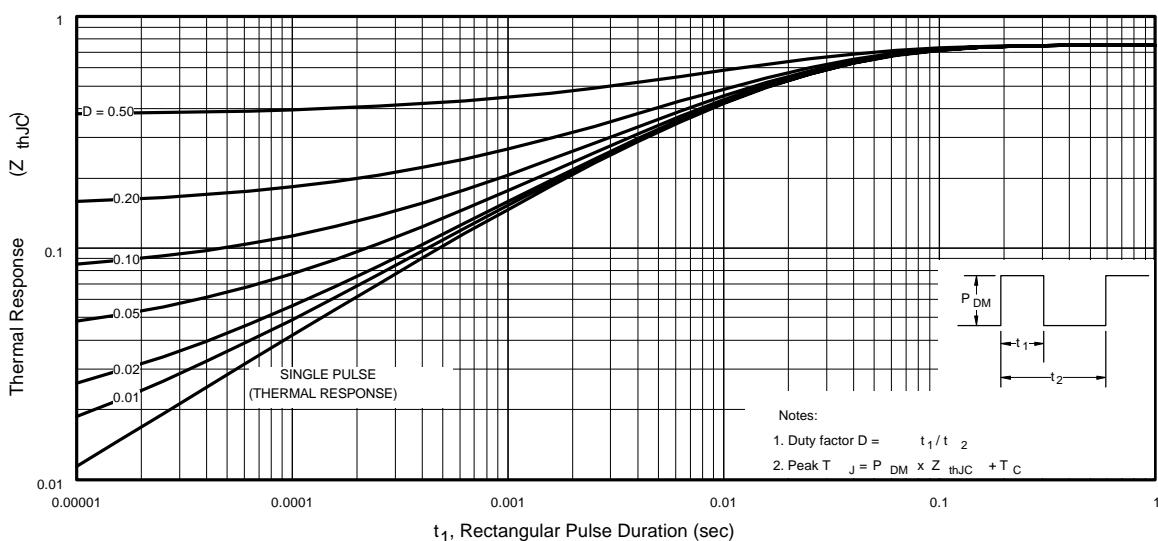

Fig 11. Maximum Effective Transient Thermal Impedance, Junction-to-Case
- ① Repetitive rating; pulse width limited by max. junction temperature. (See fig. 11).
- ② Starting $T_J = 25^\circ\text{C}$, $L = 0.13\text{mH}$
- $Z_{thJC}(D, t_{av})$ = Transient thermal resistance, see figure 11